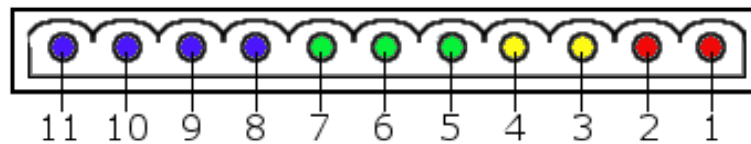

Figure 4 *Connector Pins*
- **Make sure the terminals are wired as shown in Figure 4 as failure to connect power correctly could result in irreversible product damage that is NOT covered by warranty.**
6. Reconnect the ribbon cable to the front panel (1).
7. Re-fit the front panel (1) to the housing and secure in place using the four screws.
8. Fit the two screw covers (2).
- Connect the wires as follows (refer to Figure 4 below):